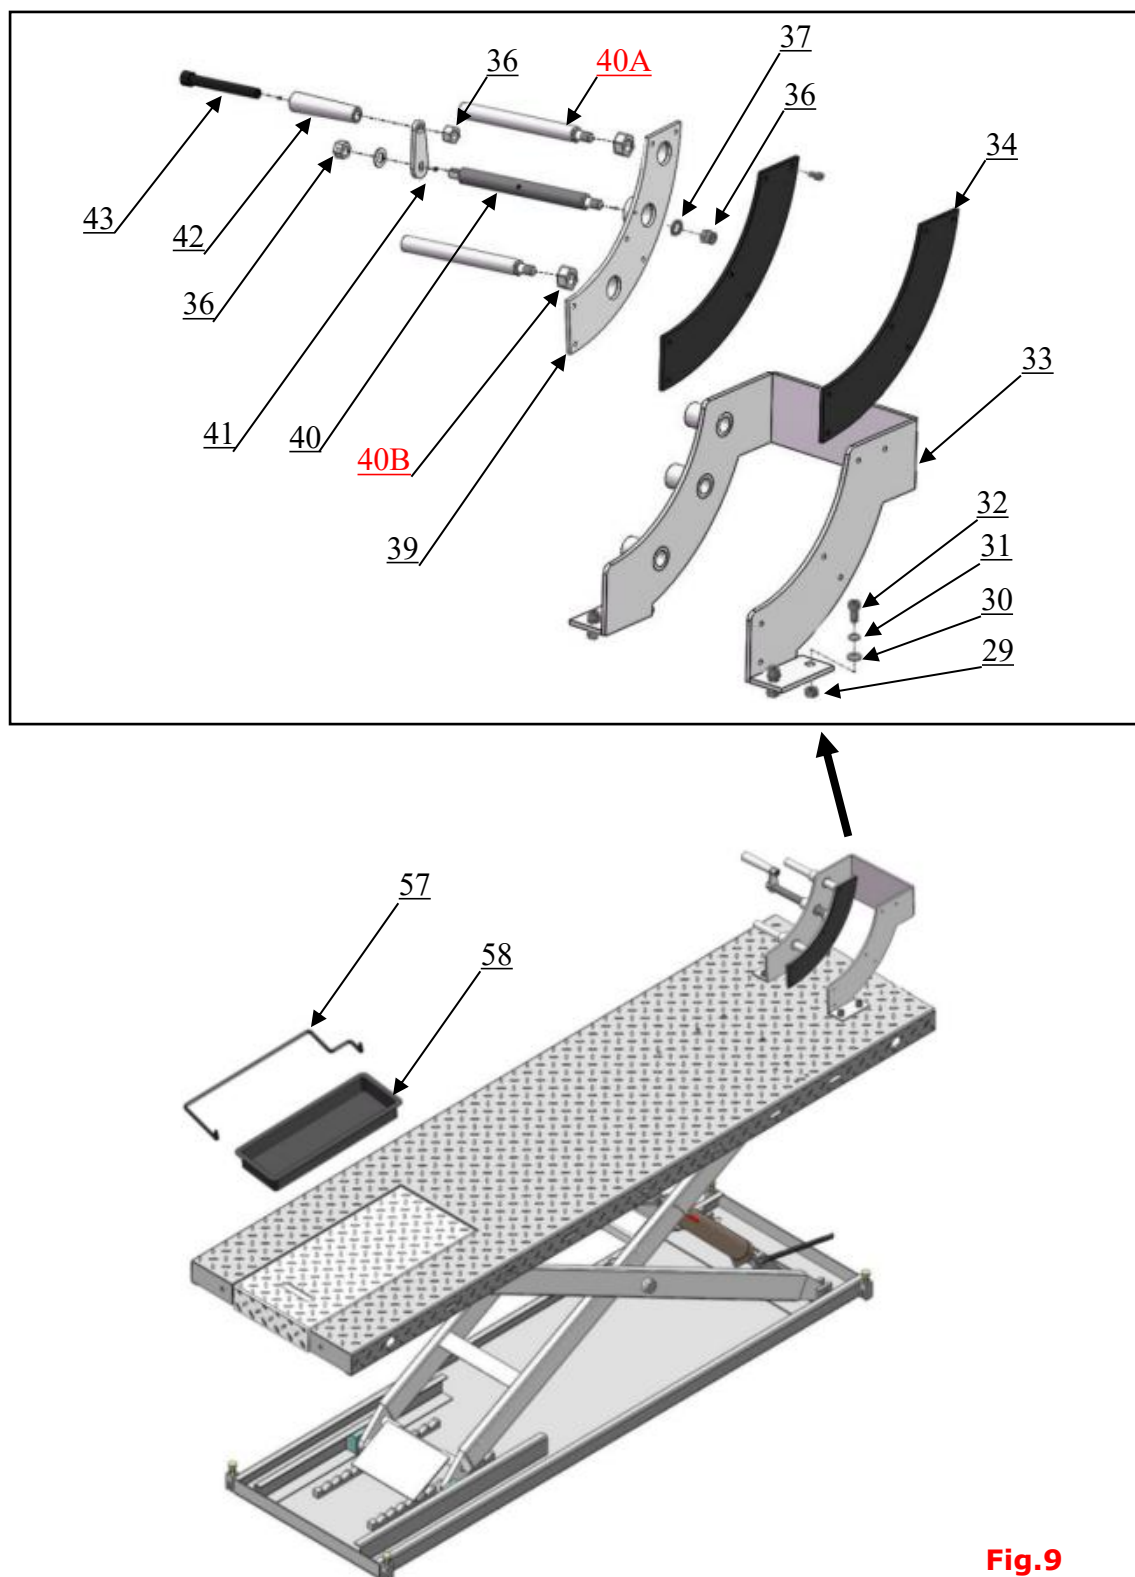

Fig.9
E. Install adjustable wheel vise and tool tray. (See Fig 9)